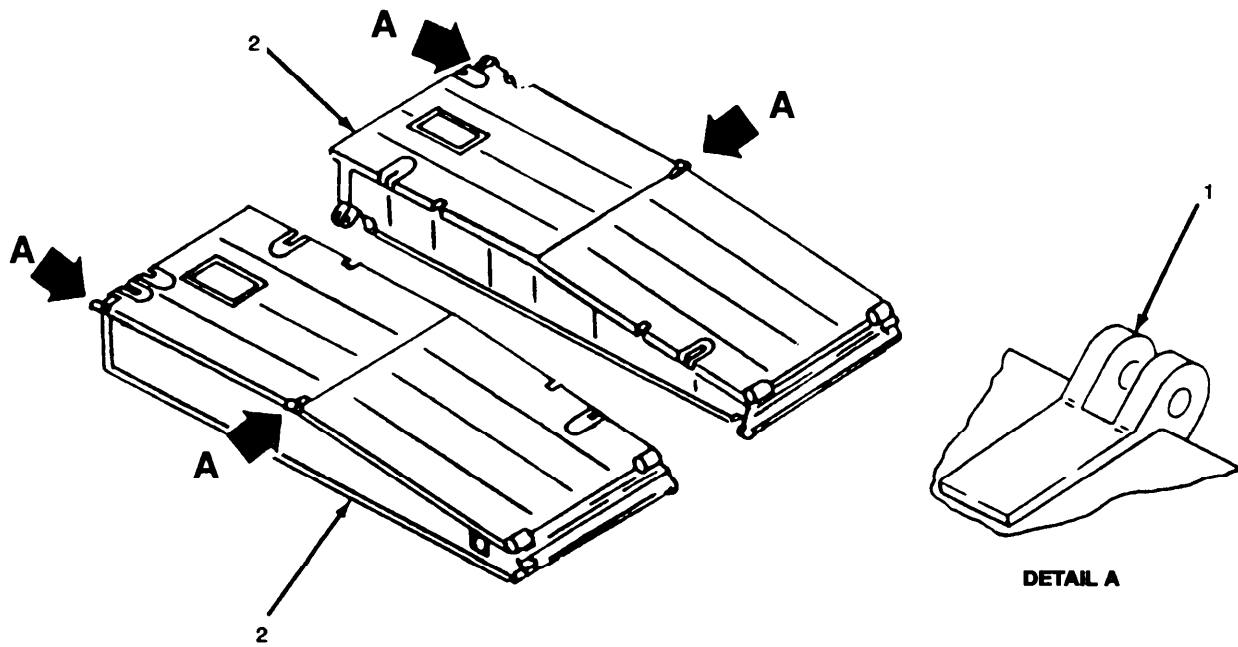

Figure 3-5. Ramp Bay Support Link and Hinge Pins, Replace.
a. Replace. (figure 3-5)
- (1) Cutout support link (1) from roadway ponton (2) in accordance with TM 9-237.
- (2) Install support link (1) by welding in accordance with TM 9-237.